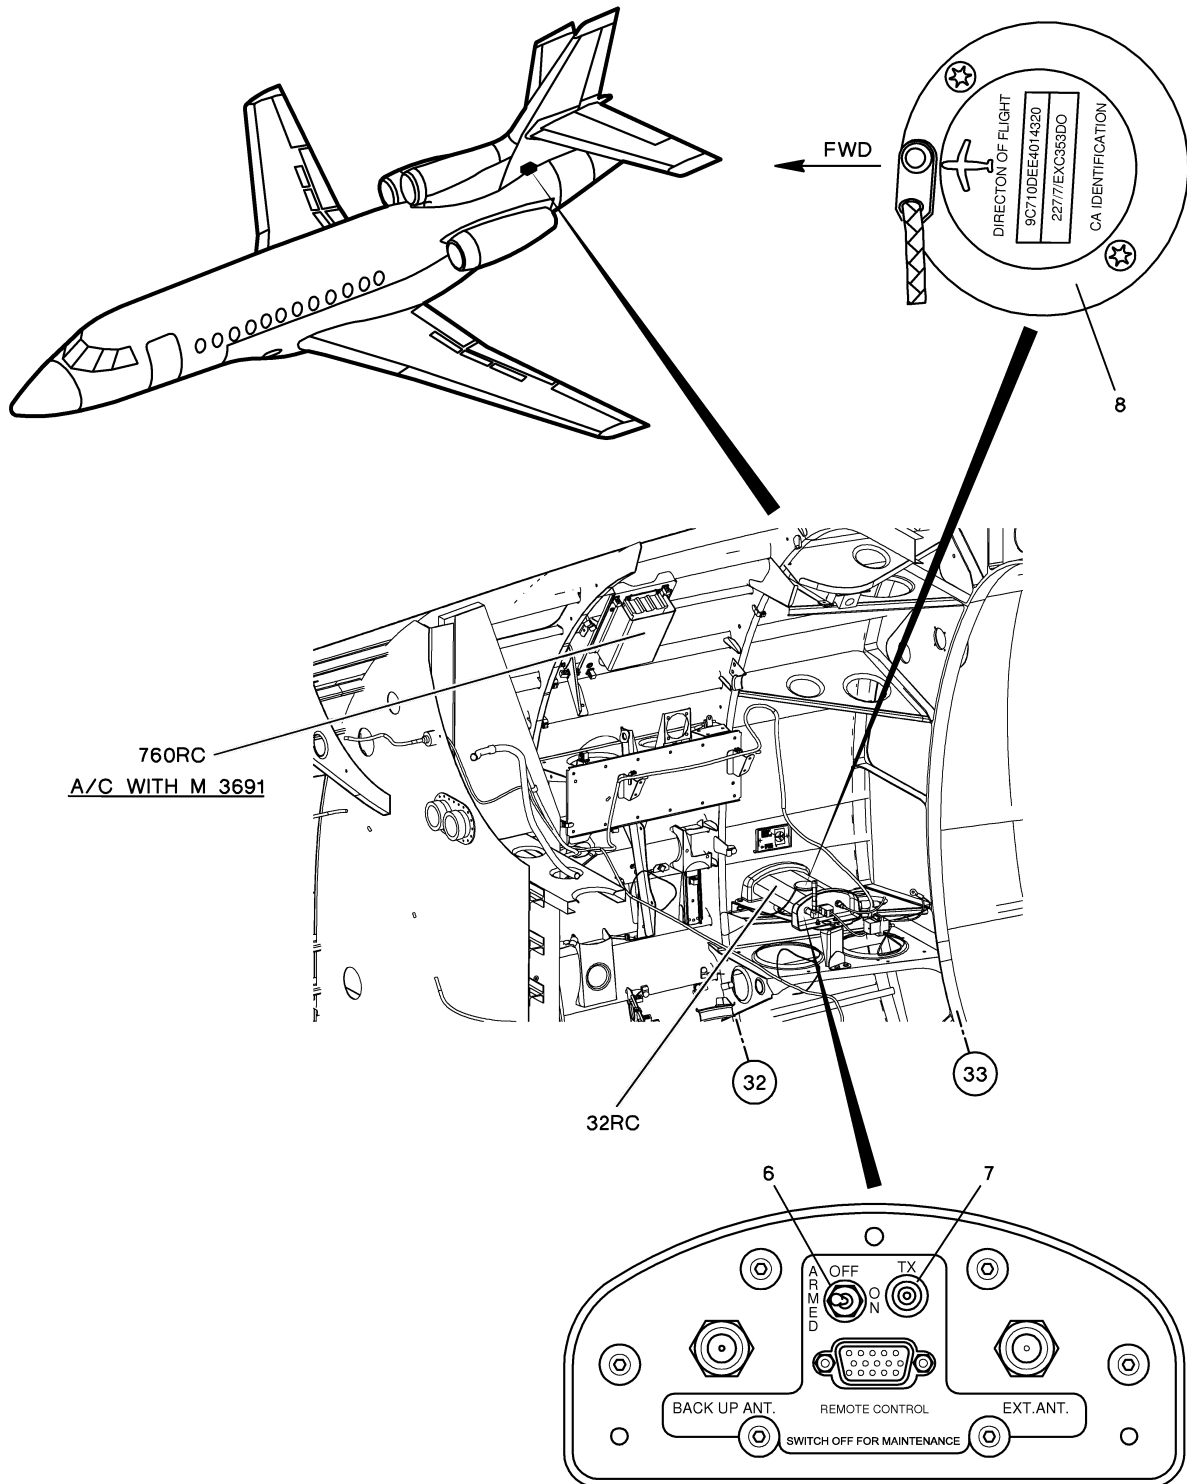

Figure 4: LOCATION OF EQUIPMENT FOR ELT ADT 406 (A/C WITH SB 184)
Refer to fig. 1, fig. 2 and fig. 4
- (1) In the cockpit, on the RH circuit breaker panel (10PP), disengage the "VOICE RECORDER" circuit breaker (1RK).
- (2) In the mechanic's servicing compartment:
- (a) Remove ELT (32RC) ((Refer to TASK 25-61-01-900-802), paragraph "Removal of Emergency Locator Transmitter (ELT) (32RC)") without removing the crash module (8-fig. 4) from the ELT.
- (b) Set the "ARMED/OFF/ON" selector switch (6-fig. 4) on ELT (32RC) to "ON".
- (c) Three seconds after the red "TX" light (7-fig. 4) has flashed twice (and the two warning tones have been simultaneously heard), check that:
- 1 The red "TX" light (7-fig. 4) illuminates steady and the warning tone can be heard for approximately 6 seconds,
- 2 The red "TX" light (7-fig. 4) then flashes at 1 Hz (0.5 s on, 0.5 s off) for 10 seconds: that is symptomatic of an external antenna connection failure, because no antenna is connected to ELT (**32RC**).
NOTE: The test is passed if the red "TX" light (7-fig. 4) illuminates steady for 10 seconds. If the red "TX" light (7-fig. 4) flashes for 10 seconds, the test is failed.
- (d) Set the "ARMED/OFF/ON" selector switch (6-fig. 4) on ELT (**32RC**) to "OFF".
CAUTION: THE "ARMED/OFF/ON" SELECTOR SWITCH (6-FIG. 4) ON ELT (**32RC**) MUST BE SET BACK TO "OFF" WITHIN 30 SECONDS AFTER THE START OF ELT ACTIVATION.
- (1) Set the "ARMED/OFF/ON" selector switch (6-fig. 4) on ELT (**32RC**) to "ARMED".
- (2) Shake ELT (**32RC**) to give it an acceleration in the direction shown by the "DIRECTION OF FLIGHT" indication (DETAIL A).
- (a) Check that the red "TX" light (7-fig. 4) flashes at 0.5 Hz (1.75 s on, 0.25 s off) and that a warning tone (from ELT (**32RC**)) can be heard.
- (3) Set the "ARMED/OFF/ON" selector switch (6-fig. 4) on ELT (**32RC**) to "OFF" within 30 seconds.
- (1) Energize the aircraft systems (Refer to **TASK 24-00-00-860-801**, paragraph "Energization with the Electrical Ground Power Unit").
- (2) In the mechanic's servicing compartment, make sure that the "ARMED/OFF/ON" selector switch (6-fig. 4) on ELT (**32RC**) is set to "ARMED".
- (3) Launch the ELT self test from the ELT control unit (**33RC**) as follow: